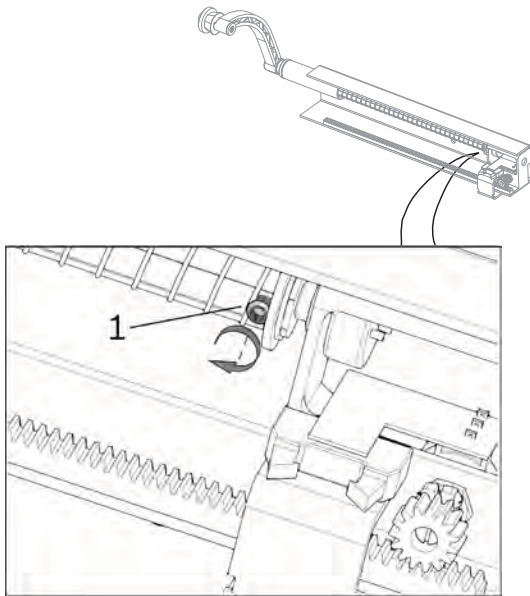

Fig. 18:
5. unblock the nut on the shaft "A" (fig.18, pos.1);
8. Block the nut "A" on the shaft (fig.18, pos.1);